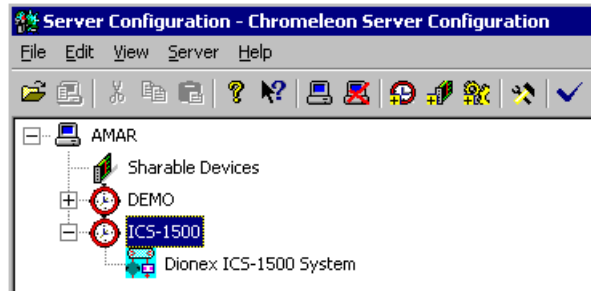

Figure B-13. Server Configuration with ICS-1500 Timebase
1. In the Server Configuration program, click the + icon next to the server name to expand the folder. The timebase you created is displayed (see Figure B-13).